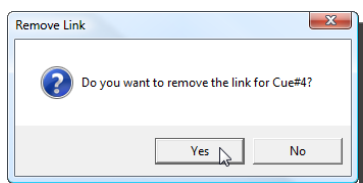

Figure 166
2. Click **Yes** in the **Remove Link** confirmation dialog box (Figure 166).